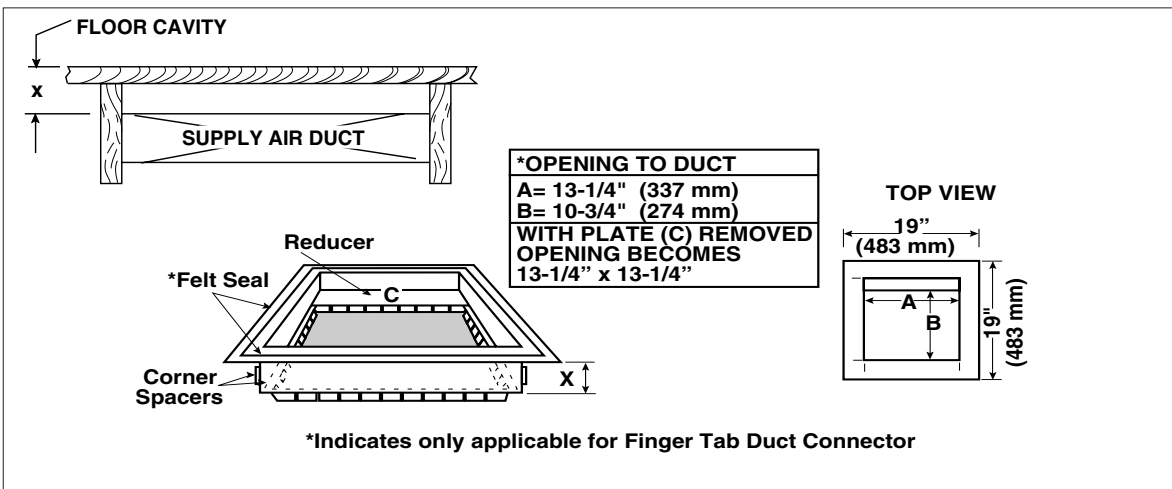

Figure 5. Duct Connector Selection (Non-Platinum)
1. Determine depth of floor cavity from surface of floor to top of supply air duct (see Figure 5).
2. Select appropriate model from Table 4 which matches X-dimension of floor cavity. To maximize air delivery, remove reducer (C in Figure 5) to obtain largest open area that will fit duct/floor construction.
- (provided or equivalent) into pre-punched holes on top of furnace (see Figure 5).